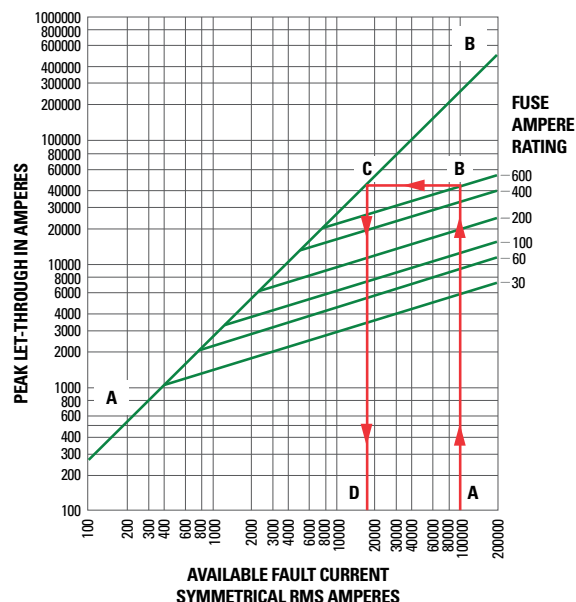

FIGURE 5. Peak let-through curve for POWR-PRO® LLNRK Class RK1 dual-element fuses using the “up-over-and-down” method.
For example, if we have an available fault-current of 100 000 rms symmetrical amperes and want to determine whether 600-ampere 250-volt time-delay Class RK1 fuses can sufficiently protect equipment that has a 22 000-ampere short-circuit rating (see **Figure 5**), then we will do the following:
1. Start by locating the 100 000-ampere available fault-current on the bottom of the chart (see **Figure 5(A)**) and follow this value upwards to the intersection with the 600-ampere fuse curve (see **Figure 5(B)**).
2. Follow this point horizontally to the left to intersect with the A-B line (**see Figure 5(C)**).
3. Read down to the bottom of the chart (see **Figure 5(D)**) to read a value of approximately 18 000 A.